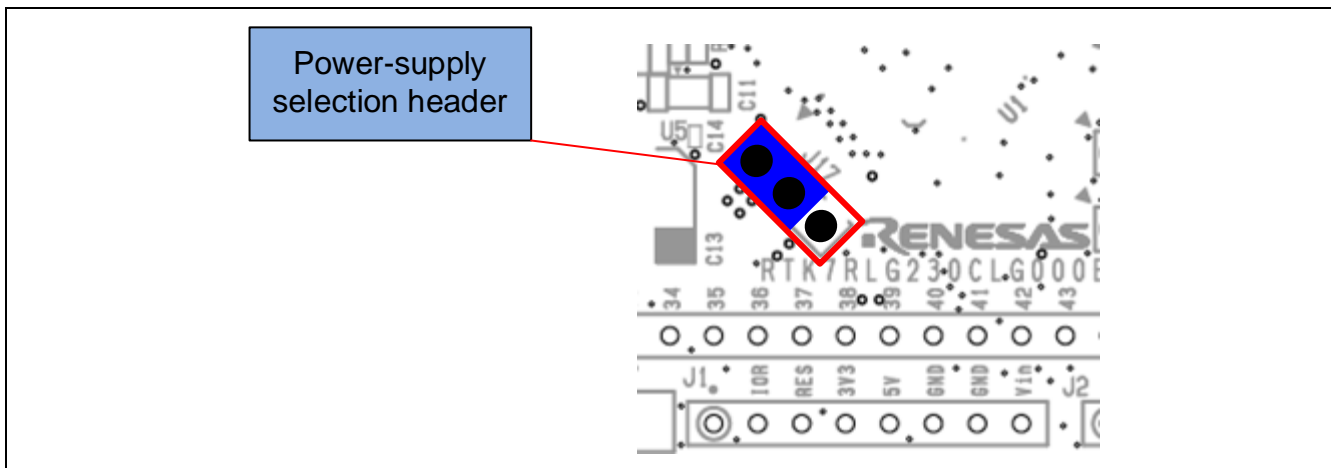

Figure 5-4 Setting of the Header to Select a 5-V Power Supply (Top Side)
- 1-2 of J17 being short-circuit selects a 5-V power supply. This is the default setting as shipped (Figure 5-4).